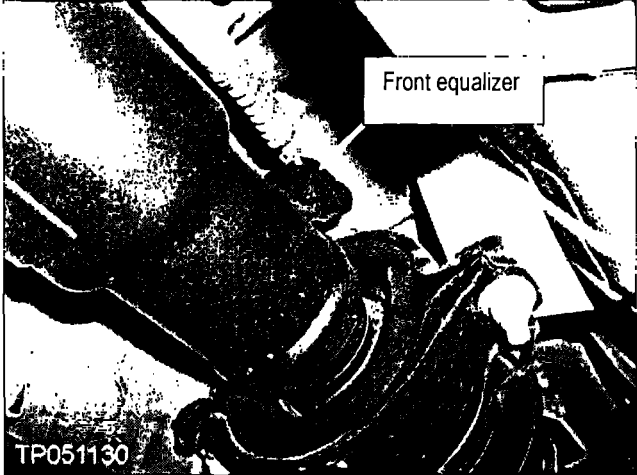

Figure 15
19. Remove the parking brake cables from the front equalizer (see Figure 15).